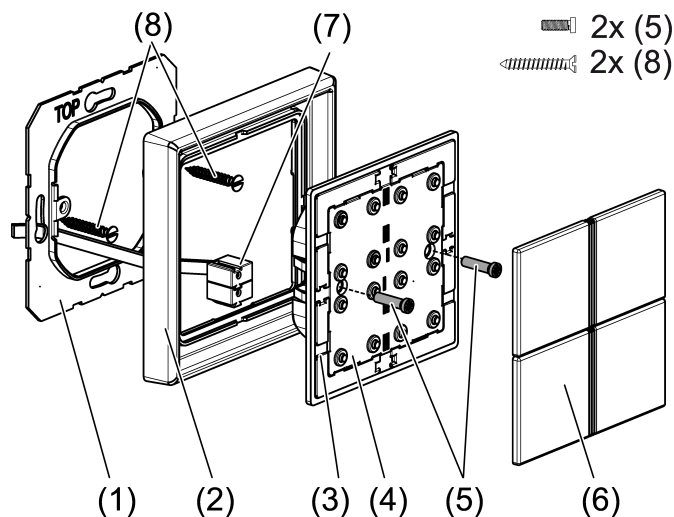

Figure 1: Mounting the push-button sensor module
- With the adapter frame (3) in the correct orientation, snap it from the front onto the push-button sensor module (4) (see figure 1). Note the marking **TOP**.